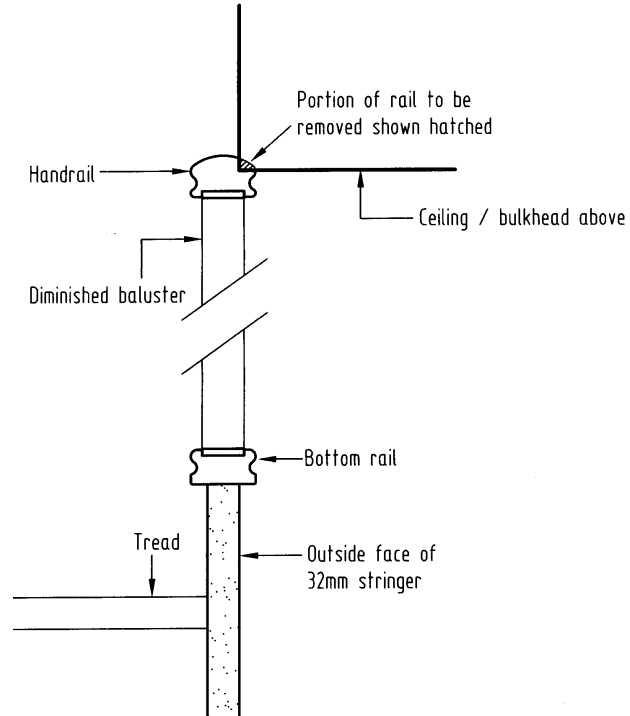

Figure 9
- 1) Rebate the handrail over the bulkhead (Refer Figure 9)